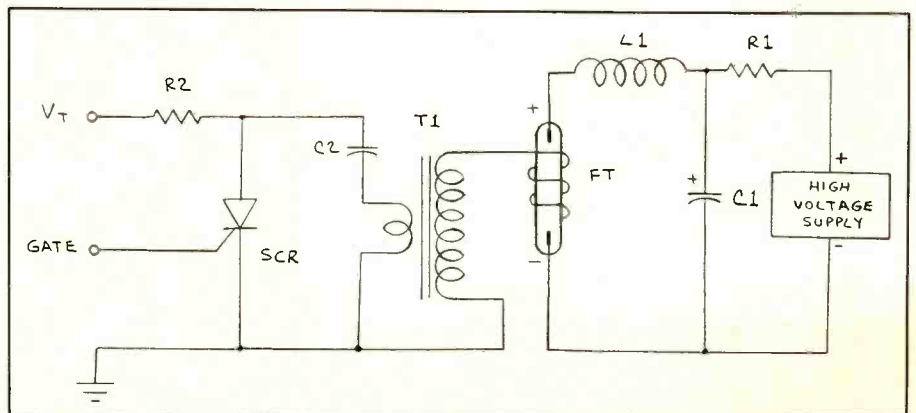

Fig. 7. Externally triggered xenon flashtube circuit.
- **External Trigger.** A basic externally triggered flashtube circuit is shown in Fig. 7. In operation, the high-voltage supply charges discharge capacitor $C1$ to several hundred volts or more through $R1$. Simultaneously, $C2$ is charged to several hundred volts (V_T) through $R2$. Though not shown in this circuit, $C2$ is